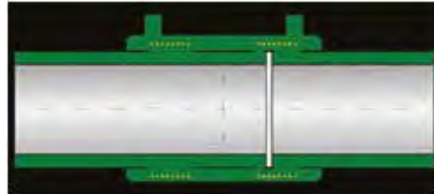

Fig. 2.6.93 Pipe not centered
5. When the gap between the pipe and fitting is excessive, the expansion of molten polyethylene cannot completely fill the space for a successful fusion as indicated in fig 2.6.93. This can be caused by undersized pipe, over scraping or severely out-of-round pipe.